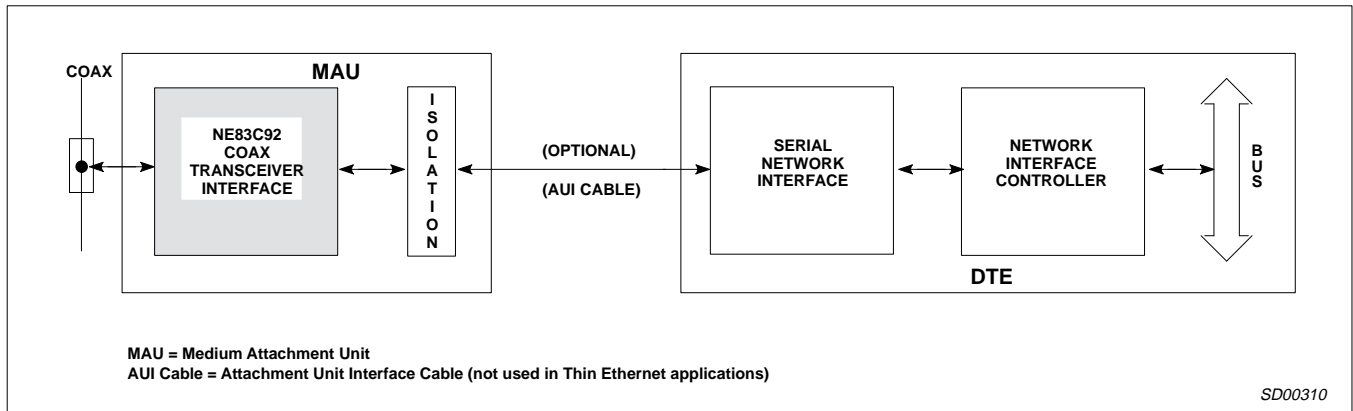

Figure 2. Interface Diagram for Ethernet/Thin Ethernet Local Area Network
- Measured on secondary side of isolation transformer (see Figure 2). The transformer has a 1:1 turn ratio with an inductance between 30 and  $100\mu\text{H}$  at 5MHz.